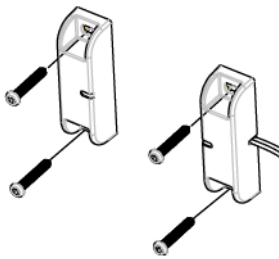

FIGURE 6
1. The Magnet Switch is to be mounted on the inner side of the pool gate or door by using either the double sided foam tape or screws provided (FIGURE 6 or 7). Mount the Magnet to the door and the Detector to the door frame.